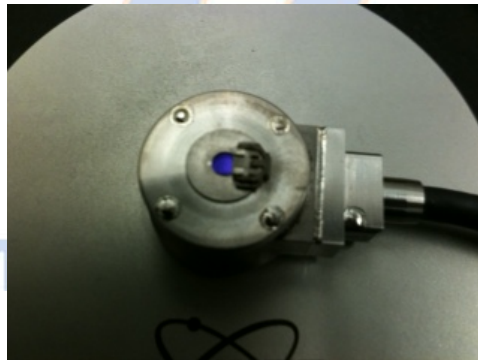

Figure 2. FastScan probe holder with spring clip secured in the locked position.
3. Using tweezers, gently place the probe in the slot on the probe holder. Take care not to squeeze the probe too tightly with the tweezers, as that may generate small shards of silicon or silicon nitride that can lodge between the probe and the probe holder, leading to problems when tuning. Gently swing the spring clip up and over the probe into the closed and locked position to secure the probe (**Figure 2**).